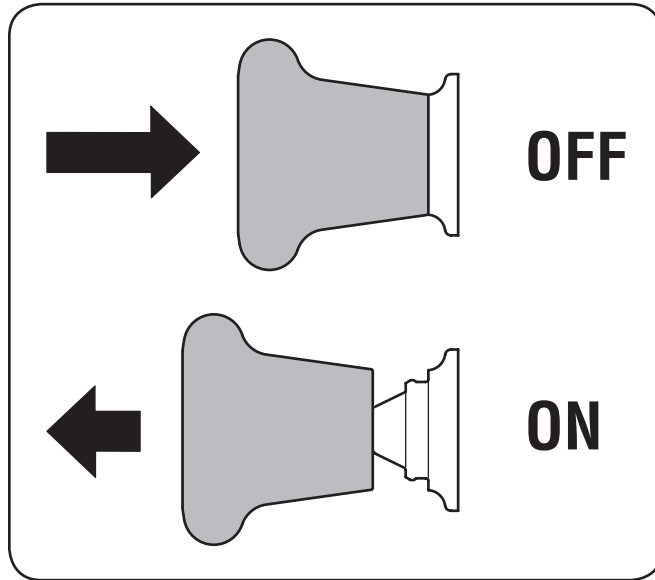

Figure 5-3
2. Pull the PTO switch upward to the ENGAGED (ON) position. See Figure 5-3.